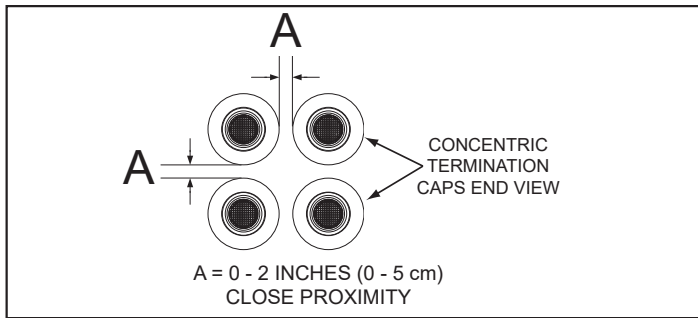
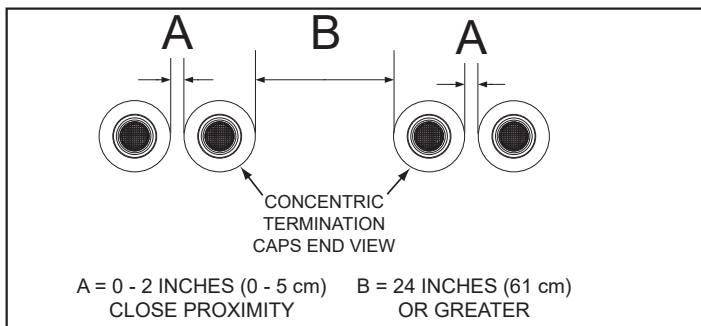
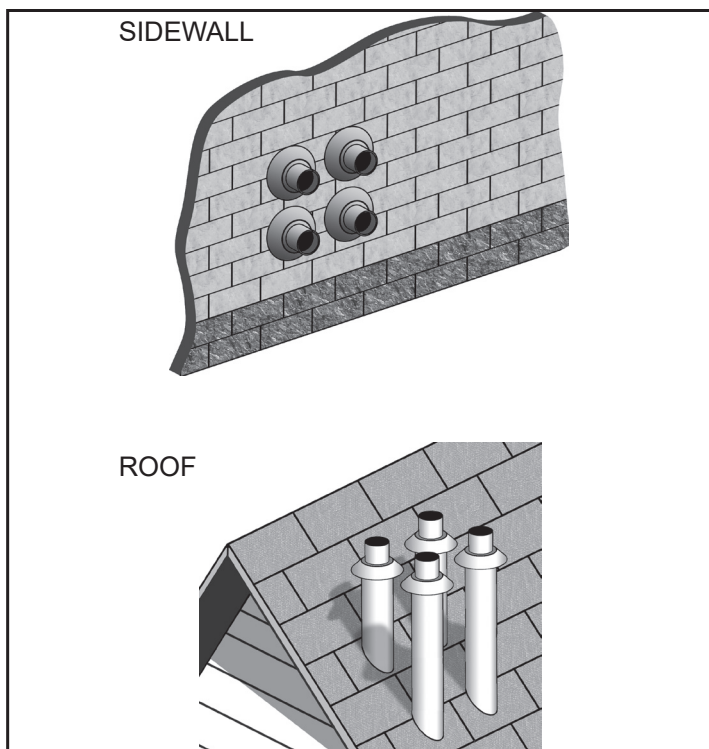

Figure 43. Four Concentric Terminations - Close Proximity
Figure 44. Four Concentric Terminations in a Line
Figure 47. Four Concentric Terminations - Sidewall and Roof
1. When installing four concentric terminations through a roof or through a sidewall in close proximity, they can be arranged into stacked rows of two, as shown in **Figure 43**, or lateral rows of two as shown in **Figure 44**.
2. Four is the maximum number of concentric terminations that can be installed in a group where all terminations are in close proximity as shown in **Figure 43**.
Four concentric terminations can be installed in close proximity as shown in **Figure 47**. See **Figure 43** (page 40) and **Figure 44** (page 40) for detailed information on clearances and additional arrangement options.